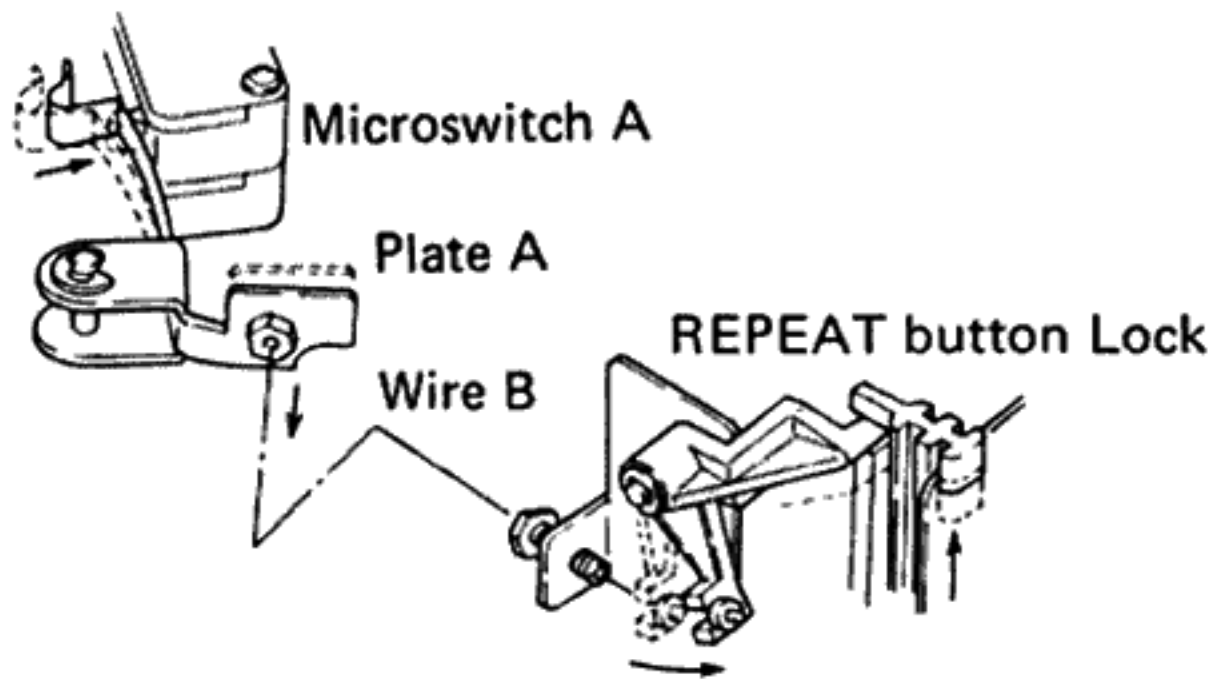

Fig. 14
- 1. When REPEAT button is locked, wire B pulls plate A, locking microswitch A in the ON position (Fig. 14).